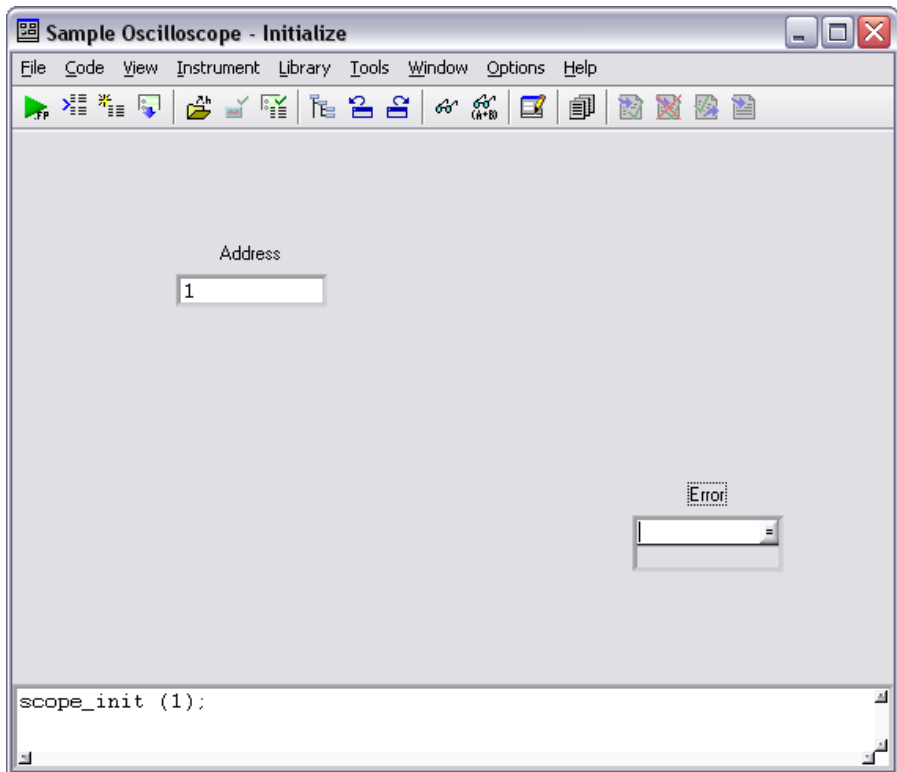

Figure 3-5. Initialize Function Panel
2. Double-click **Initialize** to open the Initialize function panel, as shown in Figure 3-5.